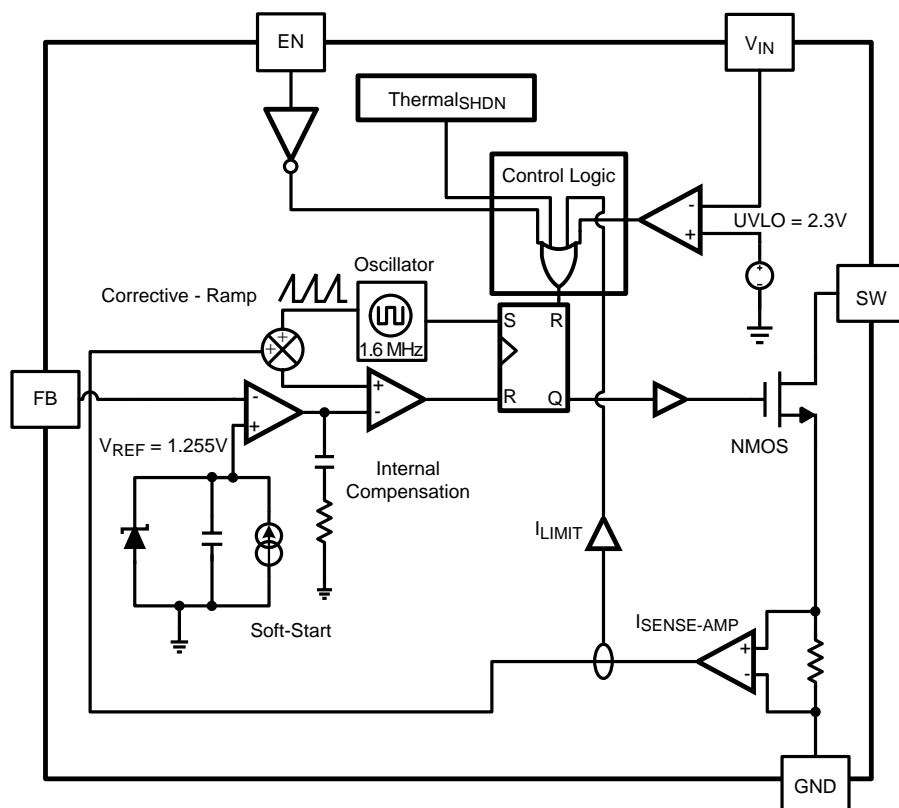
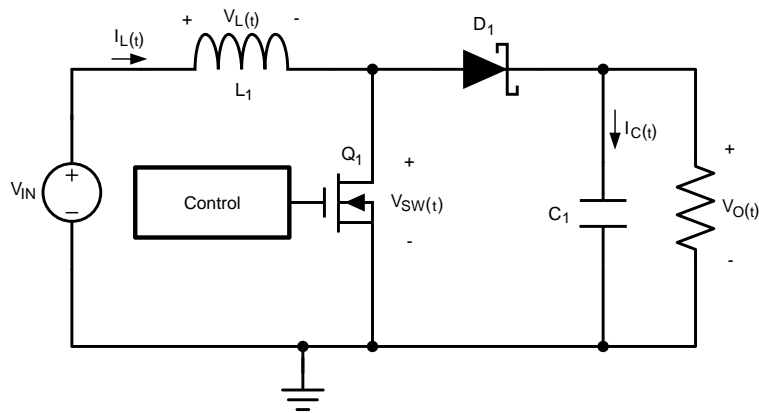
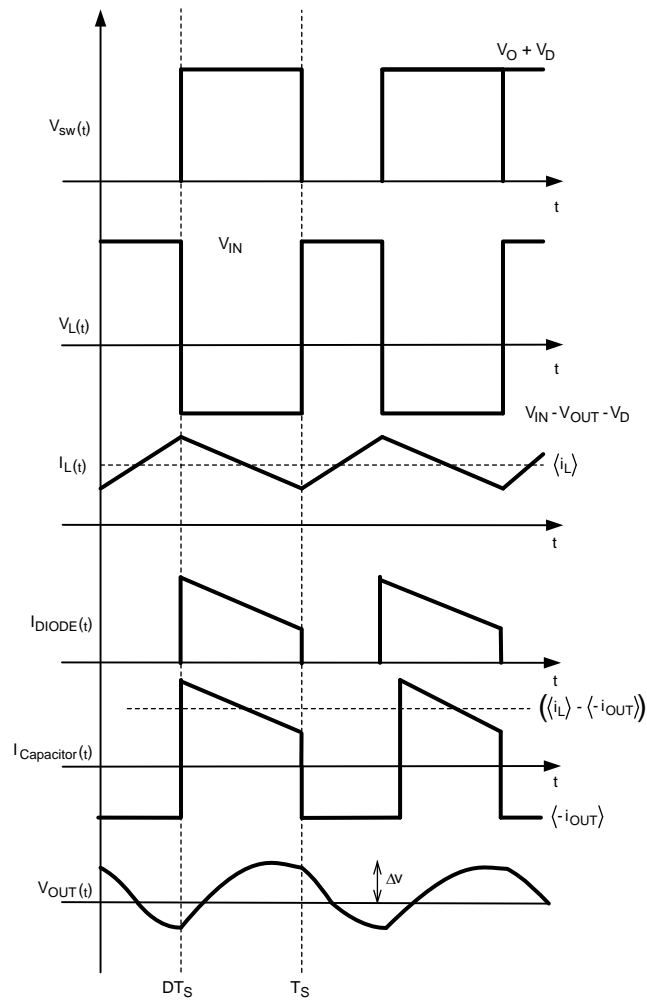

Figure 18. Simplified Block Diagram
Figure 19. Simplified Schematic
Figure 20. Typical Waveforms
The LM2735 is a constant frequency PWM boost regulator IC that delivers a minimum of 2.1A peak switch current. The regulator has a preset switching frequency of either 520 kHz or 1.60 MHz. This high frequency allows the LM2735 to operate with small surface mount capacitors and inductors, resulting in a DC/DC converter that requires a minimum amount of board space. The LM2735 is internally compensated, so it is simple to use, and requires few external components. The LM2735 uses current-mode control to regulate the output voltage. The following operating description of the LM2735 will refer to the Simplified Internal Block Diagram (Figure 18) the simplified schematic (Figure 19), and its associated waveforms (Figure 20). The LM2735 supplies a regulated output voltage by switching the internal NMOS control switch at constant frequency and variable duty cycle. A switching cycle begins at the falling edge of the reset pulse generated by the internal oscillator. When this pulse goes low, the output control logic turns on the internal NMOS control switch. During this on-time, the SW pin voltage (V_{SW}) decreases to approximately GND, and the inductor current (I_L) increases with a linear slope. I_L is measured by the current sense amplifier, which generates an output proportional to the switch current. The sensed signal is summed with the regulator's corrective ramp and compared to the error amplifier's output, which is proportional to the difference between the feedback voltage and V_{REF} . When the PWM comparator output goes high, the output switch turns off until the next switching cycle begins. During the switch off-time, inductor current discharges through diode D1, which forces the SW pin to swing to the output voltage plus the forward voltage (V_D) of the diode. The regulator loop adjusts the duty cycle (D) to maintain a constant output voltage.